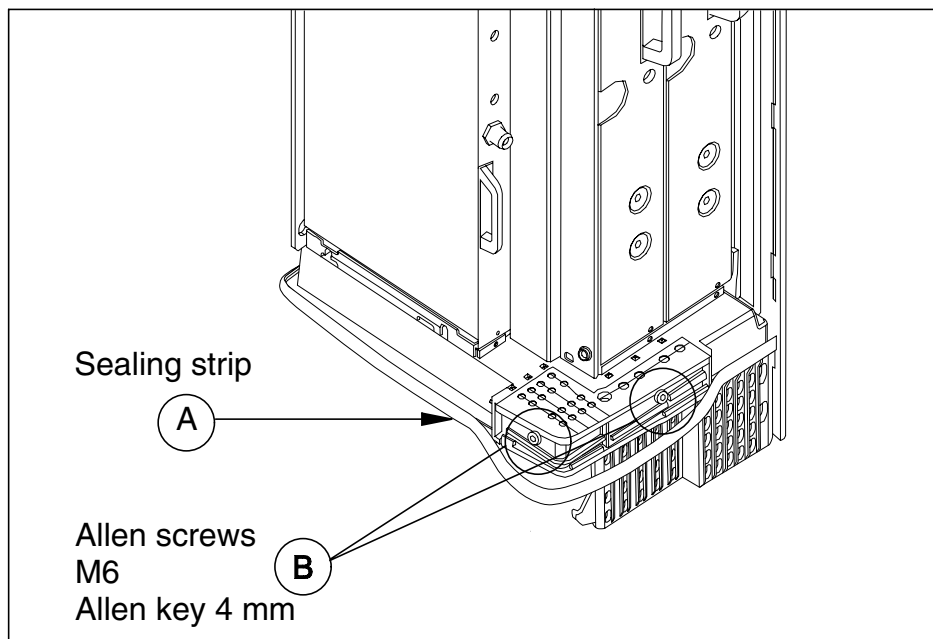

Figure 10. Displacing the sealing strip and releasing the cables
5. Detach the outer sealing gasket at the point where it covers the cable entry block, see (A) in Figure 10.
6. Remove the two 4 mm (0.157 in) Allen screws on the cable entry block. See (B) in Figure 10.